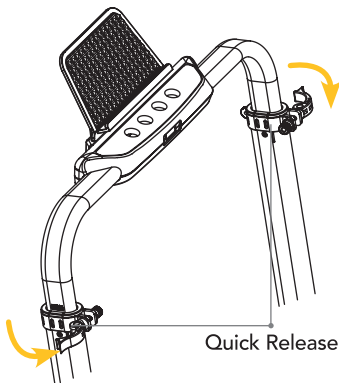

Figure 1
- First loosen the handles on the left and right upright tubes (as shown in the direction of the arrow in Figure 1);